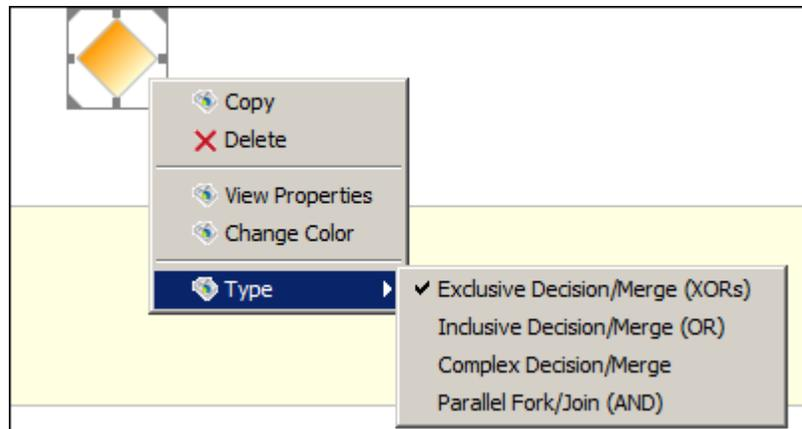

Figure 11: Select Gateway Type
5. To select the type of gateway, right click it, point the cursor to the **Type** option and select the type of gateway that you want to use (see Figure 11 ).